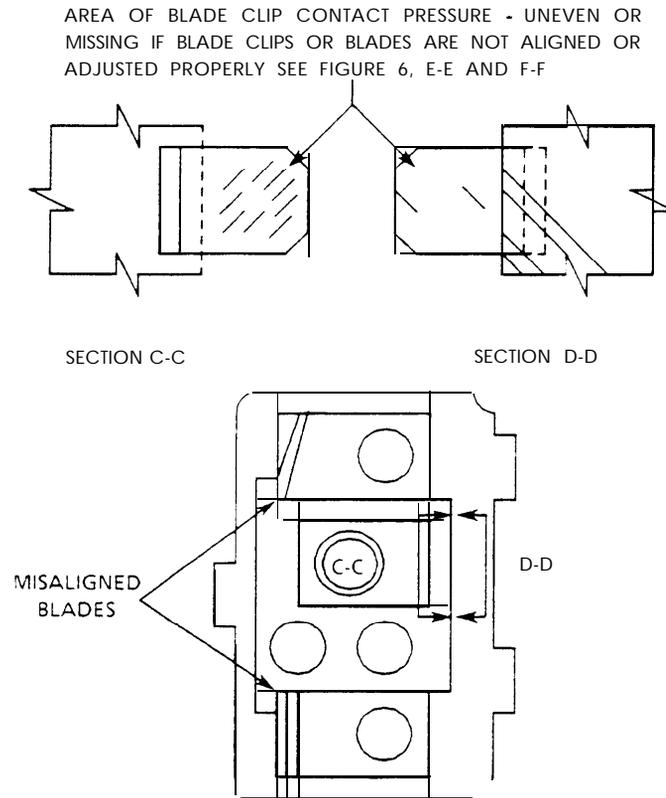
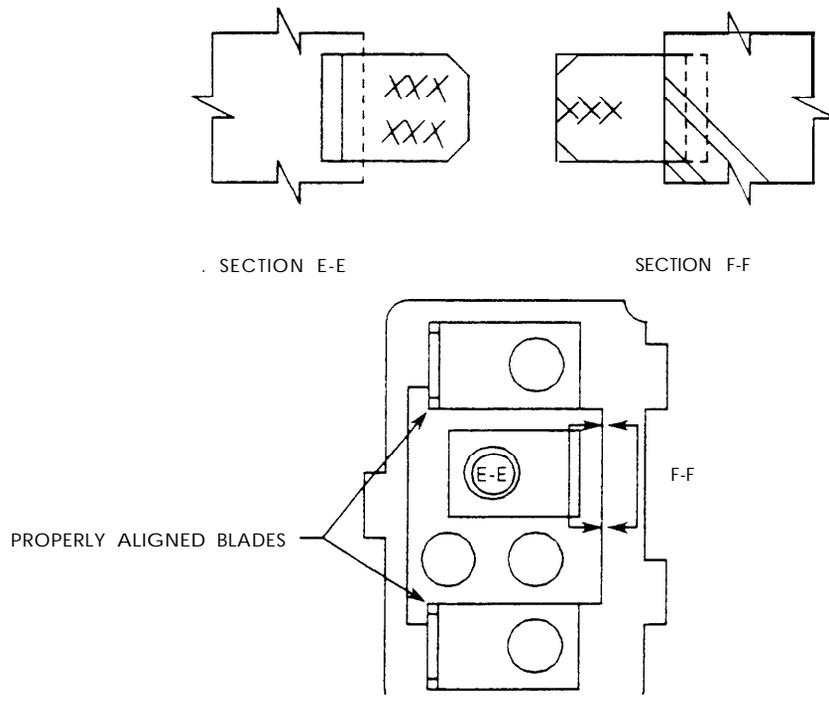

Figure 5. View of Pull-Out Showing Misaligned Blades.
Figure 6. View of Pull-Out Showing Properly Aligned Blades.
- (2) See Figures 5 and 6, respectively, for typical illustrations of improper and proper blade adjustments.
- (d) The blades in the pullout should be checked to ensure they are in proper alignment with the housing and one another. See Figure 5 for score mark identification of properly aligned clips. Improper alignment of the blades can cause deformation of the blade clip and loss of contact pressure (Figure 6).